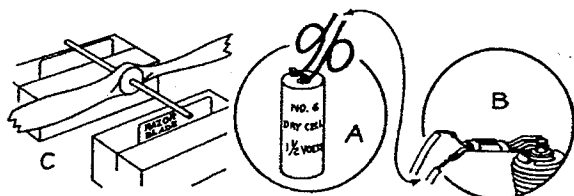

FIG. 2
5. Procure a 1 1/2 volt dry cell battery, #6 or equivalent, and connect it with 2 flexible insulated wires to a glow plug clip as shown in the diagram A & B-Fig. 2. Do not use a stronger battery. If you do the plug will burn out. The connections should be soldered to ensure good contact and taped to prevent bare ends of wire from getting together and "shortening" the battery. Be sure the battery is a good one. Your dealer sells batteries, wire, and glow plug clips.
6. Balance and trim propeller. This is very essential for good performance. Sand off any bead of plastic along edges of blades. Fit a drill or shaft through the hole and rest the shaft on razor blades set in wooden blocks as shown in C-Fig. 2. Sand the heavy blade until the propeller will balance in a horizontal position. Care must be exercised to do the sanding without spoiling the airfoil characteristics.
3. Connect the battery by snapping the clip on the glow plug. B-Fig. 2.